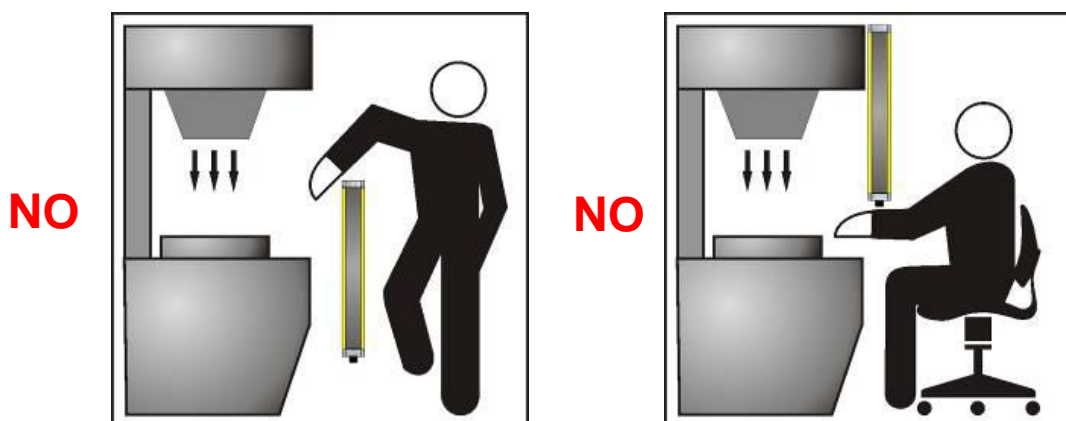
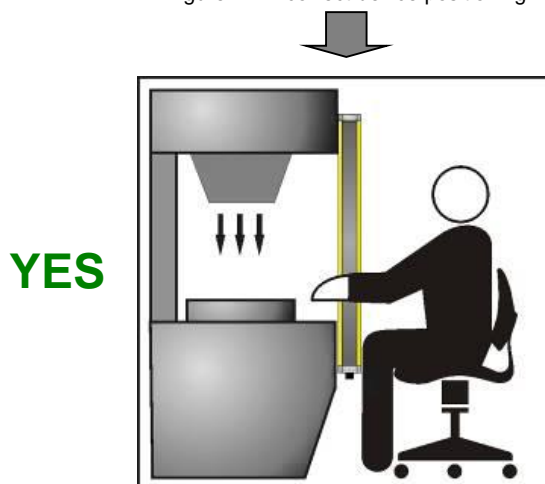

Figure 4 – Incorrect device positioning
Figure 5 – Correct device positioning
**Warning!** Figure 4 shows some examples of possible access to the machine from the top and the bottom sides. These situations can be very hazardous and the AOPD must be installed at a correct height in order to completely cover the access to the hazard zone (Figure 5).